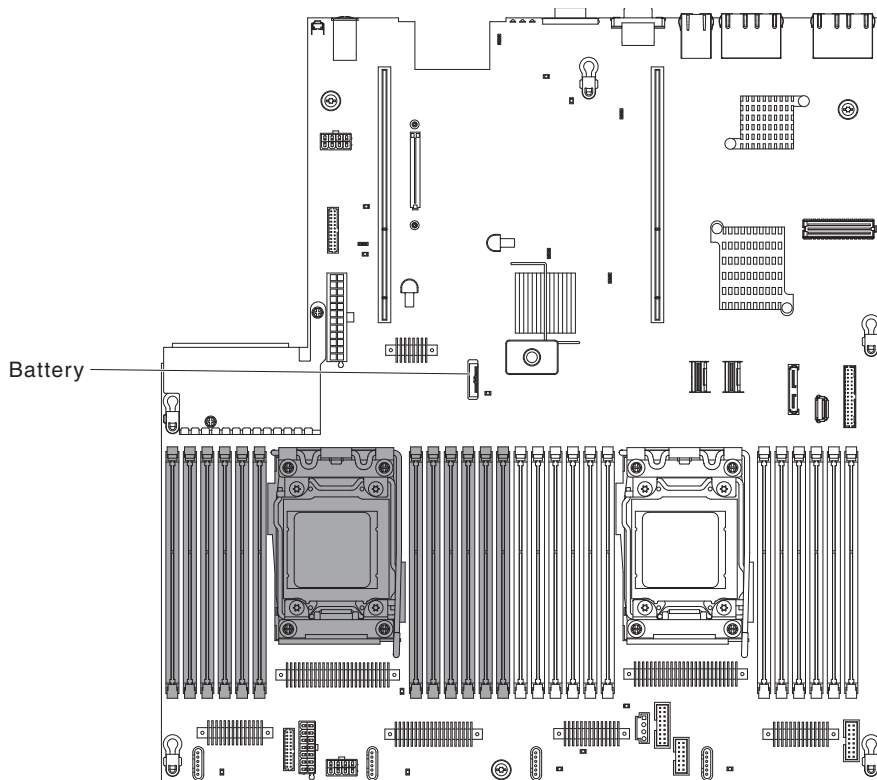

Figure 133. Location of the SAN Volume Controller 2145-DH8 CMOS battery holder
2. Locate the battery on the system board, as shown by Figure 133 on page 158.